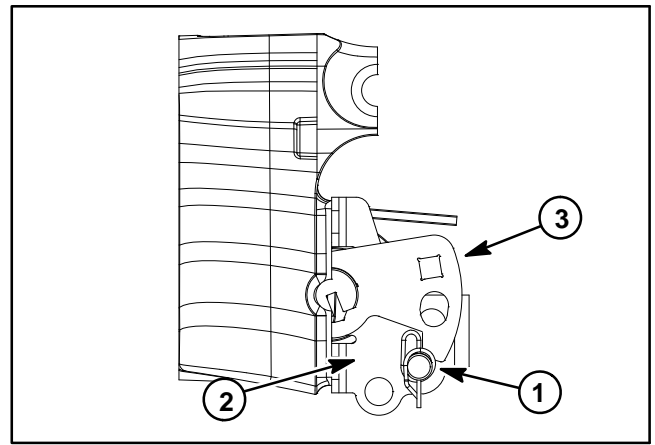

Figure 21
D. If clevis pin (item 26) was removed from counterbalance mount (item 23), install clevis pin into middle holes in counterbalance mount and below tensioner arm (item 16). Tensioner arm can be rotated with breaker bar or ratchet wrench (3/8" square drive) to align holes. Figure 21 shows correct location of clevis pin.